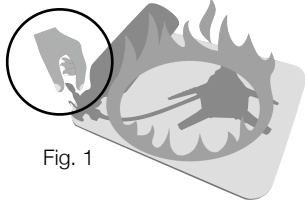

Fig. 1
1. If possible, TURN OFF THE STOVE to stop the flow of fuel and remove kettle/pot from the stove (Fig. 1)